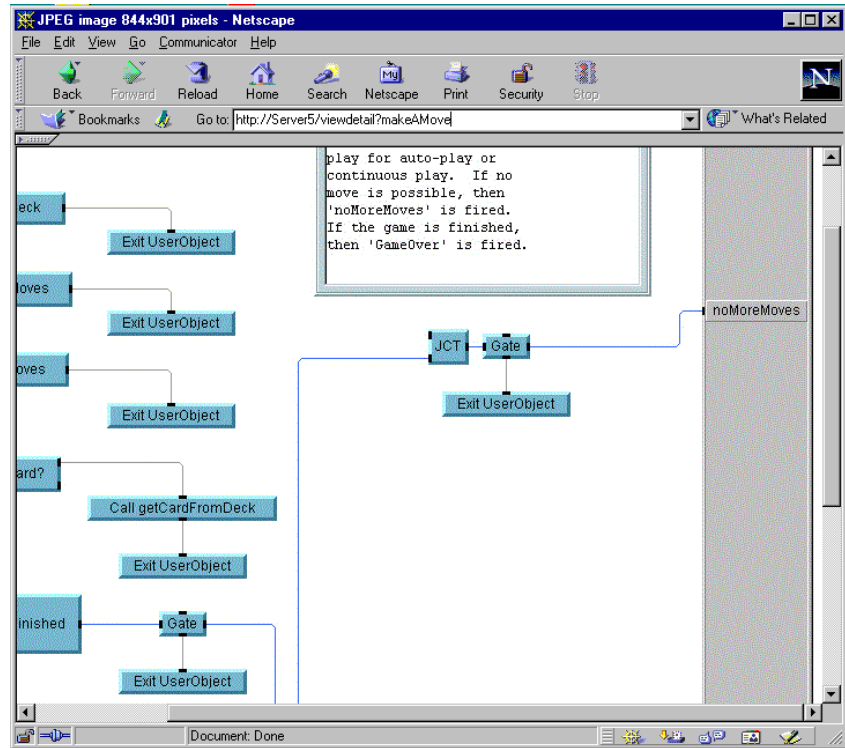

Figure 275 Detail View of a UserFunction Displayed in the Browser
- 6 The remote user goes back to the VEE Web Server Home Page once again and clicks on Detail View of UserFunction, and types in the UserFunction name makeAMove. The browser displays the UserFunction makeAMove as shown in Figure 275.
The remote user is able to see the error in the VEE program. There is an input pin not connected on the JCT object shown in Figure 275. The remote user could now help you troubleshoot **Solitaire.vee** and resolve the error. Using a similar process of working together over the Web, you could collaborate with remote users or develop programs together.